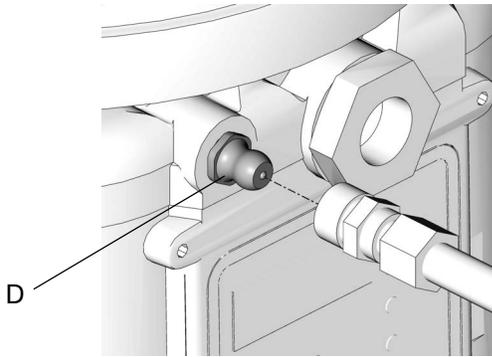

FIG. 14
<ul style="list-style-type: none"> • Always clean inlet fitting (D) (FIG. 14) with a clean dry cloth prior to filling reservoir. Dirt and/or debris can damage pump and/or lubrication system. • Care must be used when filling the reservoir using a pneumatic or electric transfer pump to not pressurize and break the reservoir.